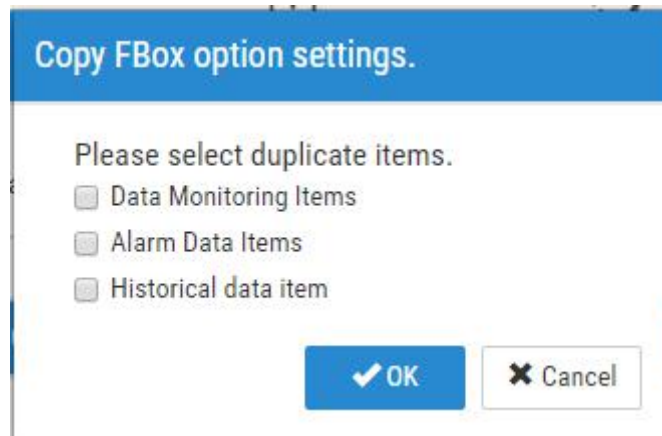

Fig. 4.5-22 The "Copy FBox option settings" window
(3) After selecting the target FBox and click the "OK" button in the "Copy FBox" dialog, the "Copy FBox option settings" window will pop up, as shown in Fig. 4.5-22.